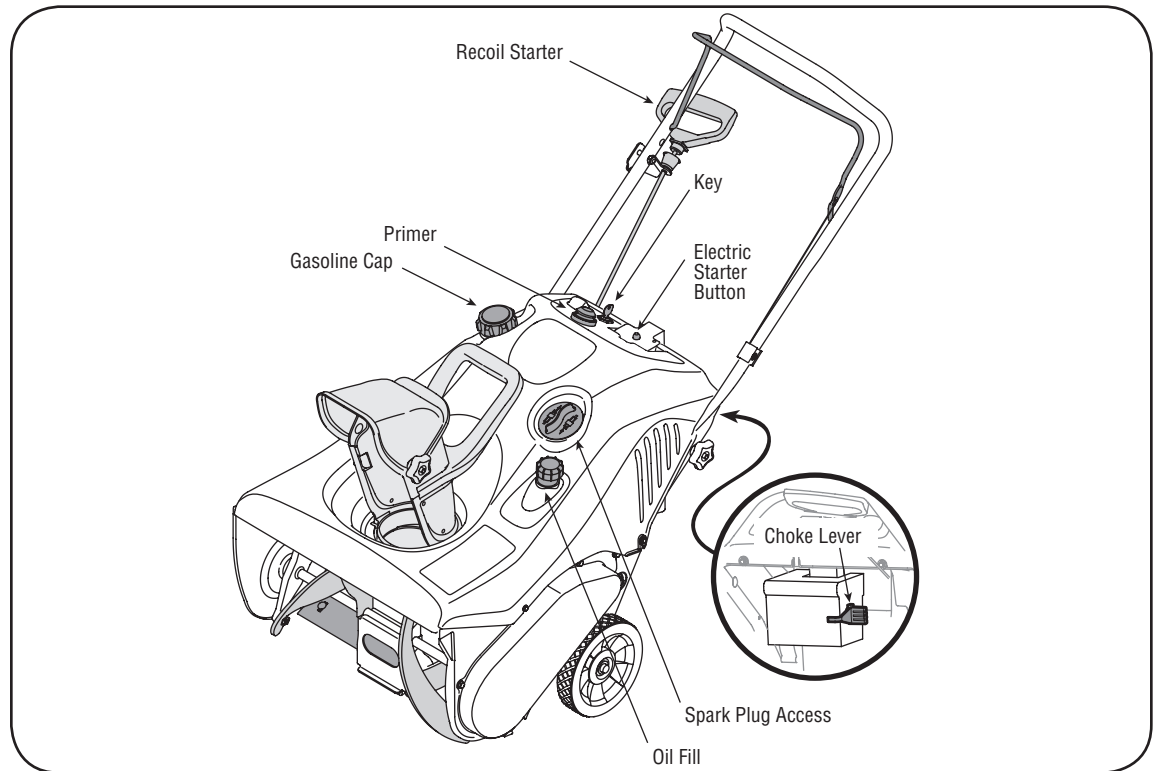

Figure 5-1
3. Now follow the instructions below as it pertains to your unit. See Figure 5-1 for location of controls.